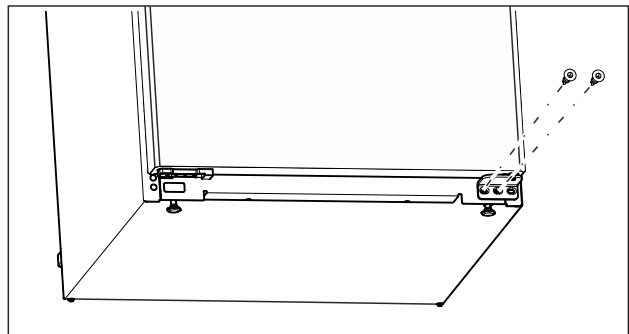

Fig. 11
- ▶ Unscrew the middle screw on the lower swap bearing block with a Torx 20 screwdriver. (see Fig. 11)
- ▶ Unscrew the inner screw on the lower swap bearing block with a Torx 20 screwdriver. (see Fig. 11)